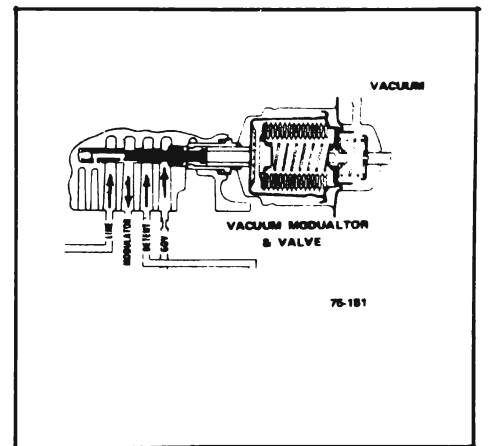

Figure 75-18 - Modulator Valve
f. Modulator Valve (See Figure 75-18)